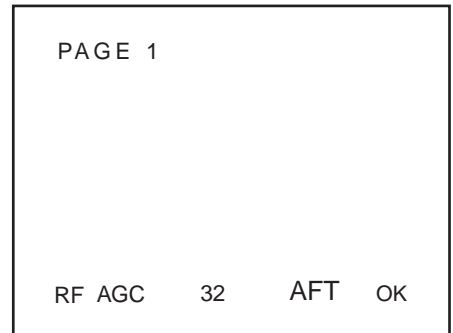

Fig. 1-6
2. Using the volume keys on the jig remote controller to adjust the test point voltage value to $4.0 \pm 0.5\text{VDC}$. Then check if the status of AFT on the Adjustment Menu Screen is displayed “OK” as shown in Fig. 1-6.